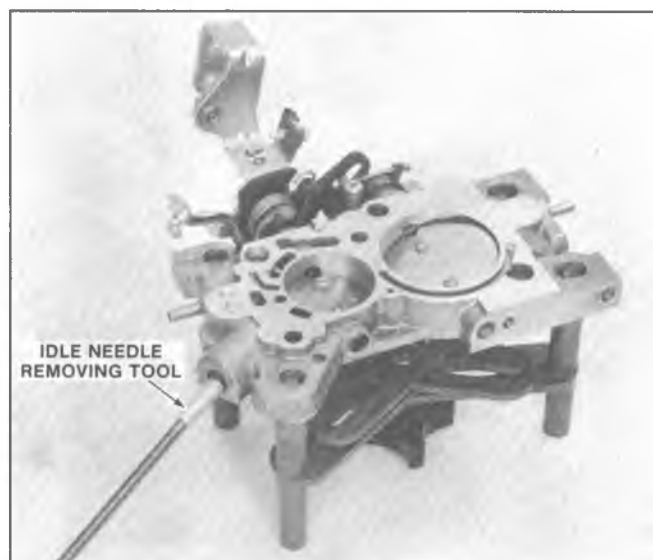

Fig. 6C2-35--Removing Idle Needle
c. Using Tool J-28706 or 3/16" thin wall deep socket, remove idle mixture needle, washer (if used), and spring from throttle body (Fig. 6C2-35).